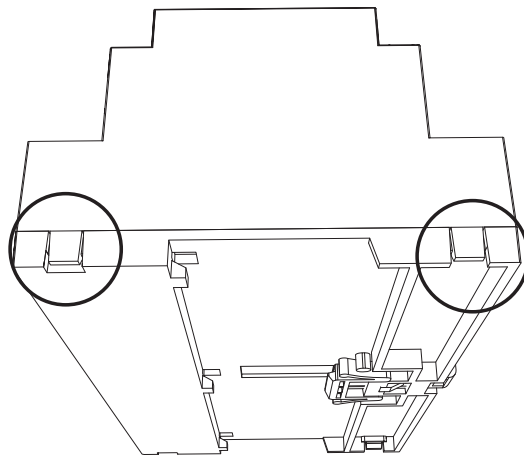

Figure 2 **Tabs on enclosure**
1. Insert a flathead screwdriver under the tabs on the enclosure, shown in Figure 2, in order to lift the tabs and remove the base.